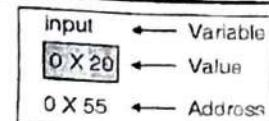

Fig. 3.4.6: Representation of a variable
- Compiler will assign a memory location to the variable anywhere within the internal memory 0x00 to 0x7F. Let us assume that compiler has chosen the address location 0x55 for input Fig. 3.4.6 shows the representation of variable.